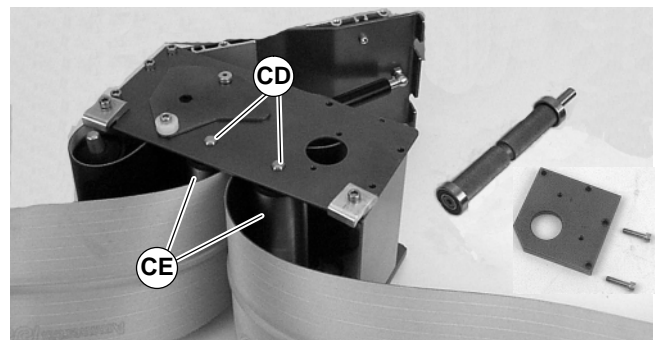

Figure 47
- For 127 mm or wider conveyor, depress both sides of each spring-loaded shaft (CD of Figure 47). Remove pulleys (CE).